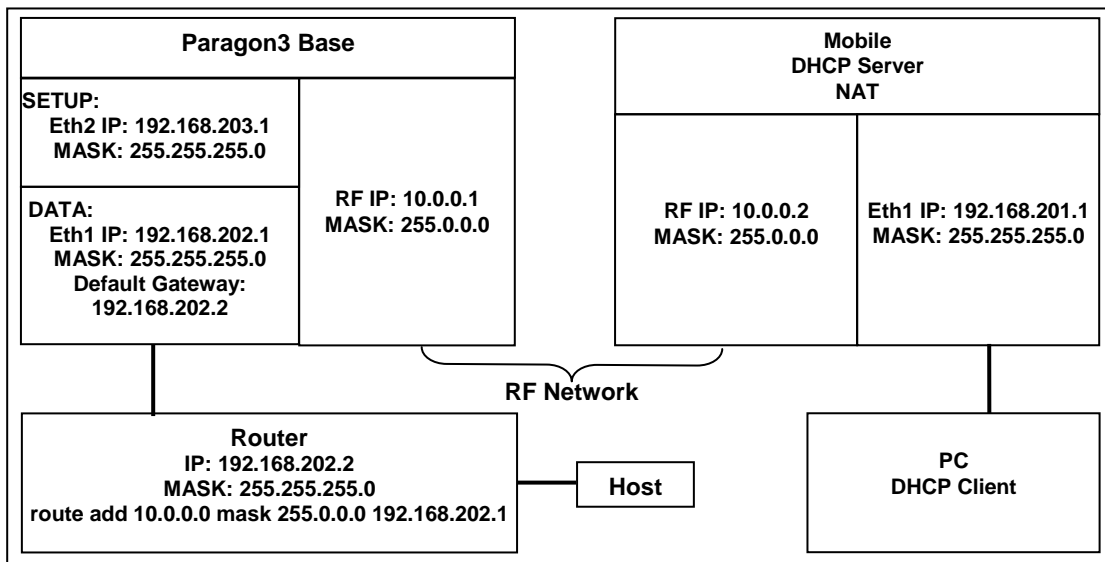

Figure 15 - IP Network Settings in Router Mode (with Router)
Figure 15 below illustrates Paragon3 base station settings. In Setup (Advanced) → LAN (IP), set the data Interface 1 port (Eth1) IP addresses (set the setup Interface 2 port (Eth2)) and IP netmask of both Base and Mobile(s).